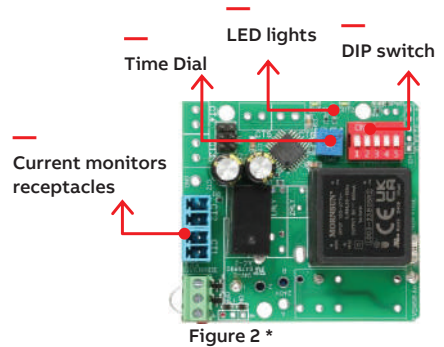

Figure 2 *
- 2- Insert the two current monitoring device connectors into the corresponding receptacles on the control board. See Figure 2, p.7.